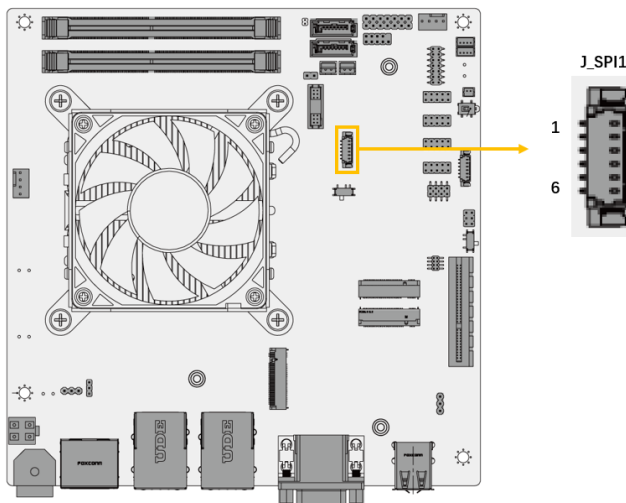

Figure 3-25: BIOS Programmer Connector Location
- CN Location:** See **Figure 3-25**